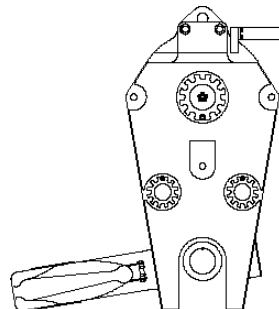

FIGURE 4-49
- #79-44 Boom with #132 Jib — see Figure 4-49 for recommended reeving.